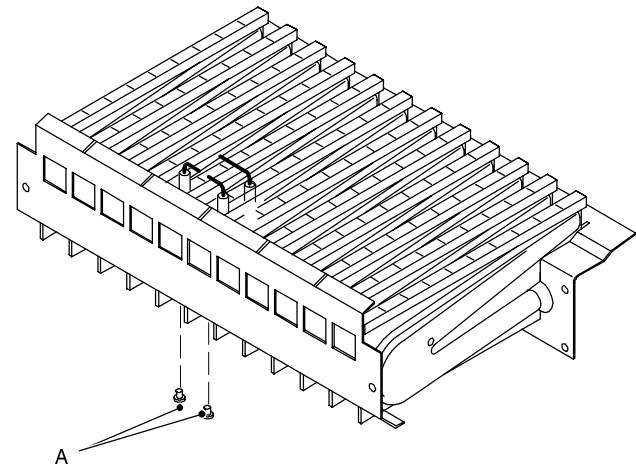

Fig. 74
- 4 Unscrew the screws A (Fig. 74) which hold the electrodes to the burner.